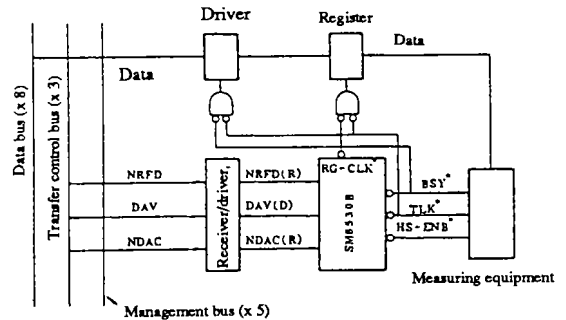
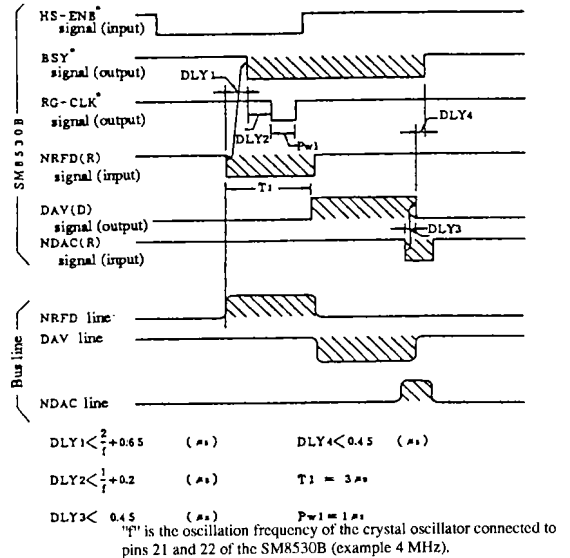

Figure 1 Schematic drawing of a talker
Figure 2 Talker handshaking
- When data is to be transmitted, a measuring equipment pulls the HS-ENB* signal for the SM8530B to the Low (active) level to control 3-line handshaking. The concept of this operation is shown in Figure 1, and the time chart in Figure 2.